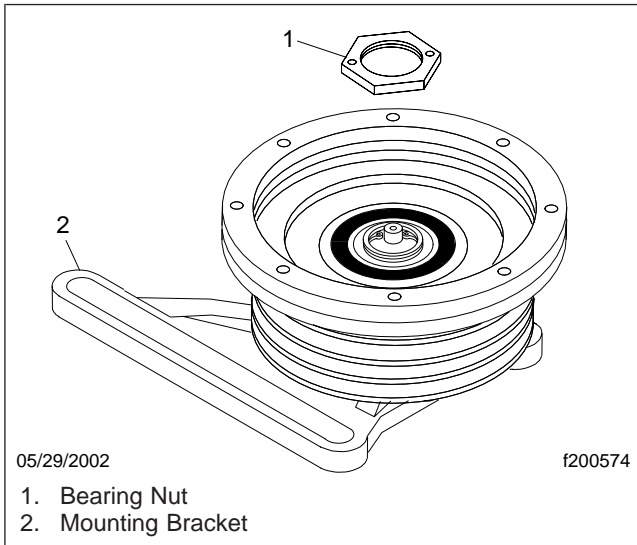
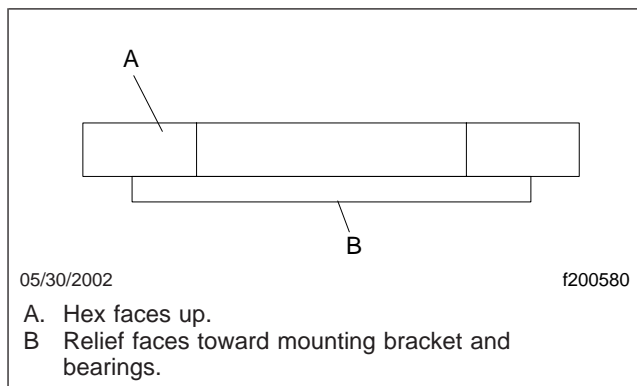

Fig. 7, Bearing Nut Removal and Installation
Fig. 12, Correct Bearing Nut Orientation
20. Remove the bearing nut from the mounting bracket. See Fig. 7 .
- 2.4 Making sure that the bearing nut hex is facing up, install the bearing nut. See **Fig. 12** . Tighten 130 lbf-ft (176 N·m). See **Fig. 7** .